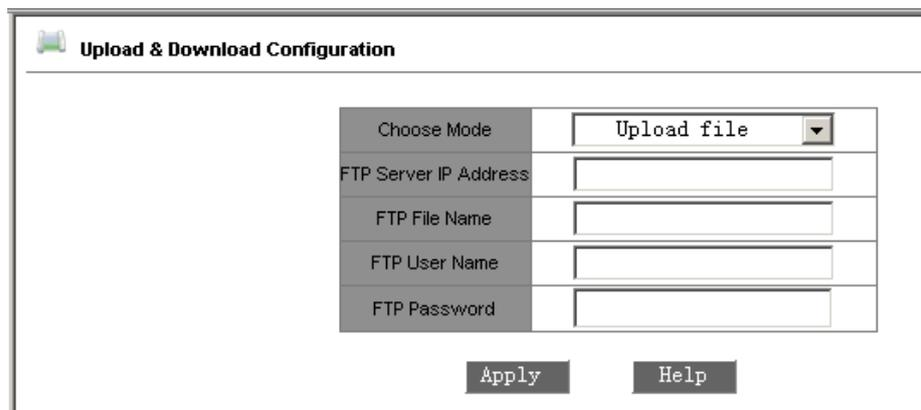

Figure 7-12 Upload & Download Configuration
Click the “Upload/Download Configuration” in the left menu and enter the page (as Figure 7-12), enter server IP address and file name to be uploaded/downloaded, user name, password and click “Apply” to take effect. See the details of FTP configurations in “Appendix D”.
- Select “upload” or “download” file and set FTP server IP address, file name, user name, password and file name to be upgraded, click “Apply” as shown in Figure 7-12. FTP server address and IP address of switch should be in the same segment.